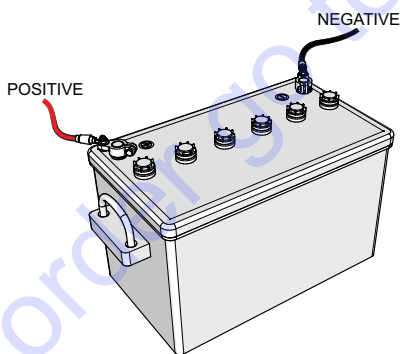

Figure 13. Battery Connections
**ALWAYS** be sure the battery cables (Figure 13) are properly connected to the battery terminals as shown below. The **red cable** is connected to the positive terminal of the battery, and the **black cable** is connected to the negative terminal of the battery.